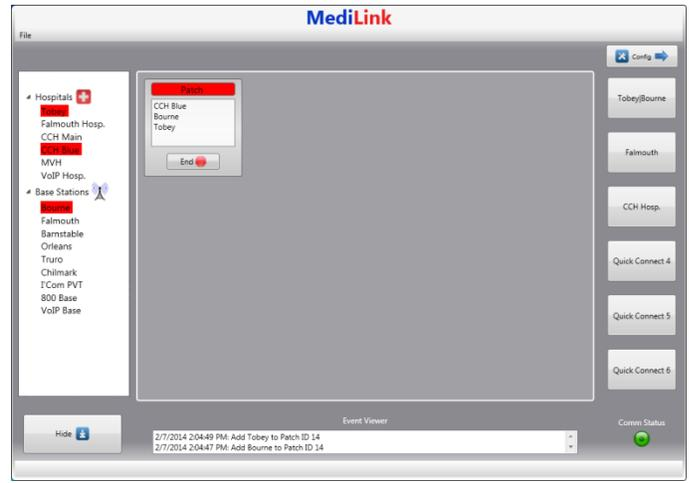

Figure 32: Manual Connection
Setting up Quick Connects allows the user to quickly make conferences between the same locations with a click of a button. To configure Quick Connects, click on the “**Config**” button. The screen, as shown in Figure 32, will appear.
- Another way to make a connection is clicking on a location and then other connection. If the clicks are within time limit setup in the “Selection Timer”, all of the locations clicked will form a connection as shown in Figure 32. To make another connection separate from the first one, wait after the Selection Timer time (default is 3 seconds).
- The third way to make a connection is by clicking a location and then dragging and dropping other locations into the Patch as shown in Figure 32.